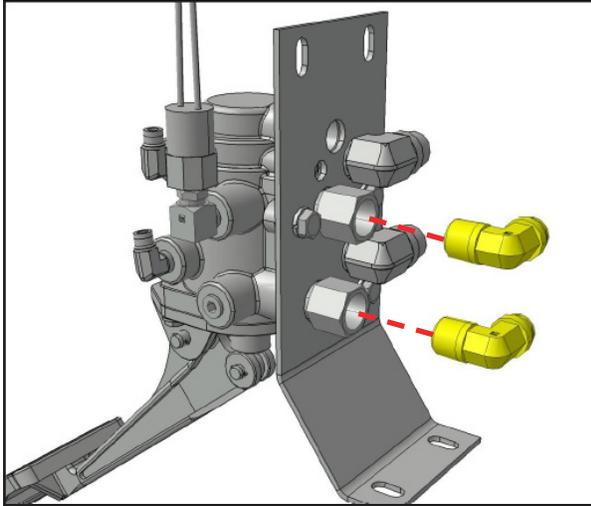

Figure 8: Remove and retain the two 90° push-to-connect fittings.
8. With the treadle valve and bracket loose, remove and retain the two (2) 90° push-to-connect fittings shown in Figure 8.